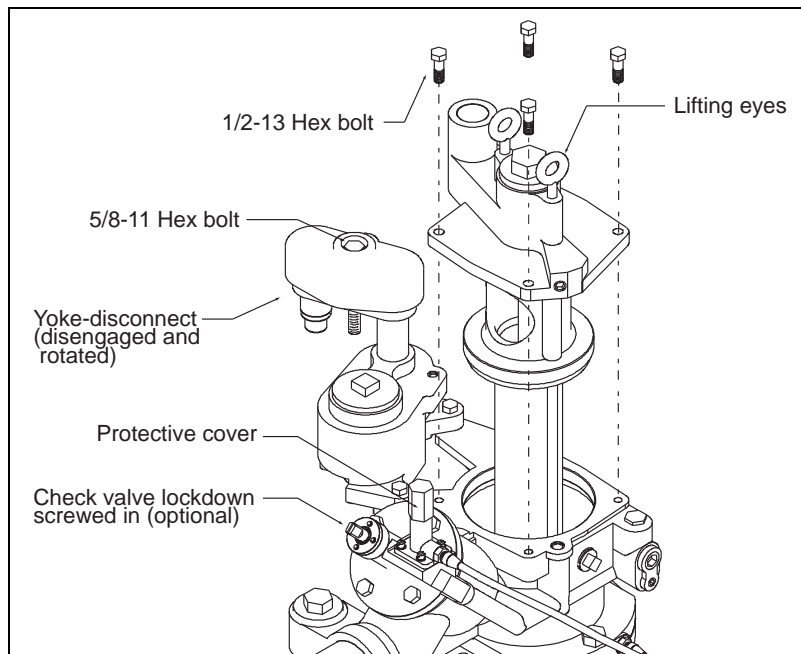

Figure 19. Maxxum - Extractable Section
2. Unscrew the 5/8-inch bolt and pull the yoke up and rotate it 90° counterclockwise (see Figure 19).
## Installing the Extracta Assembly (Ref. Figure 19)